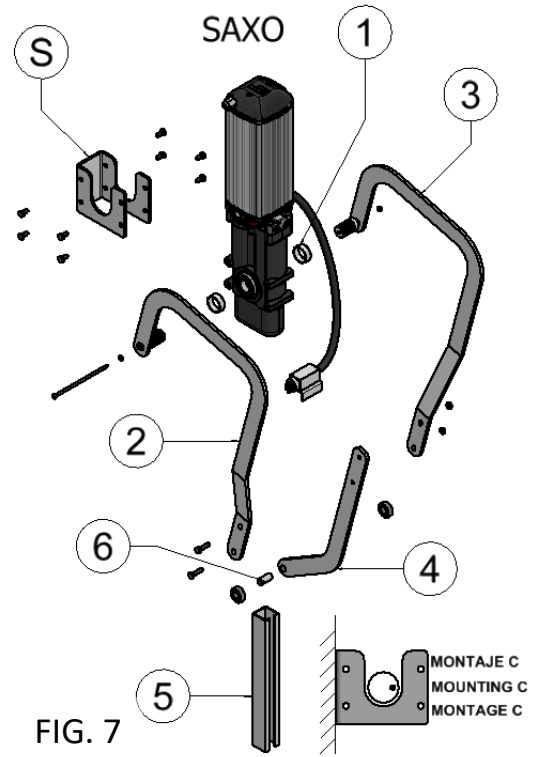

FIG. 7
### Fitting Figure 7
2. The point marked on the right-hand pivot axis of the 2RU\* unit shall be as shown in figure 7. Before fitting parts 1, 2, 3 and 4 in figure 7 to the unit as shown in figure 7, turn the axis of the unit by 5° in the opposite direction to the stop position, then fit parts "5" and "6" in figure 7.
3. Fix piece "G" of figure 7 at the gate, as shown in figure 5.